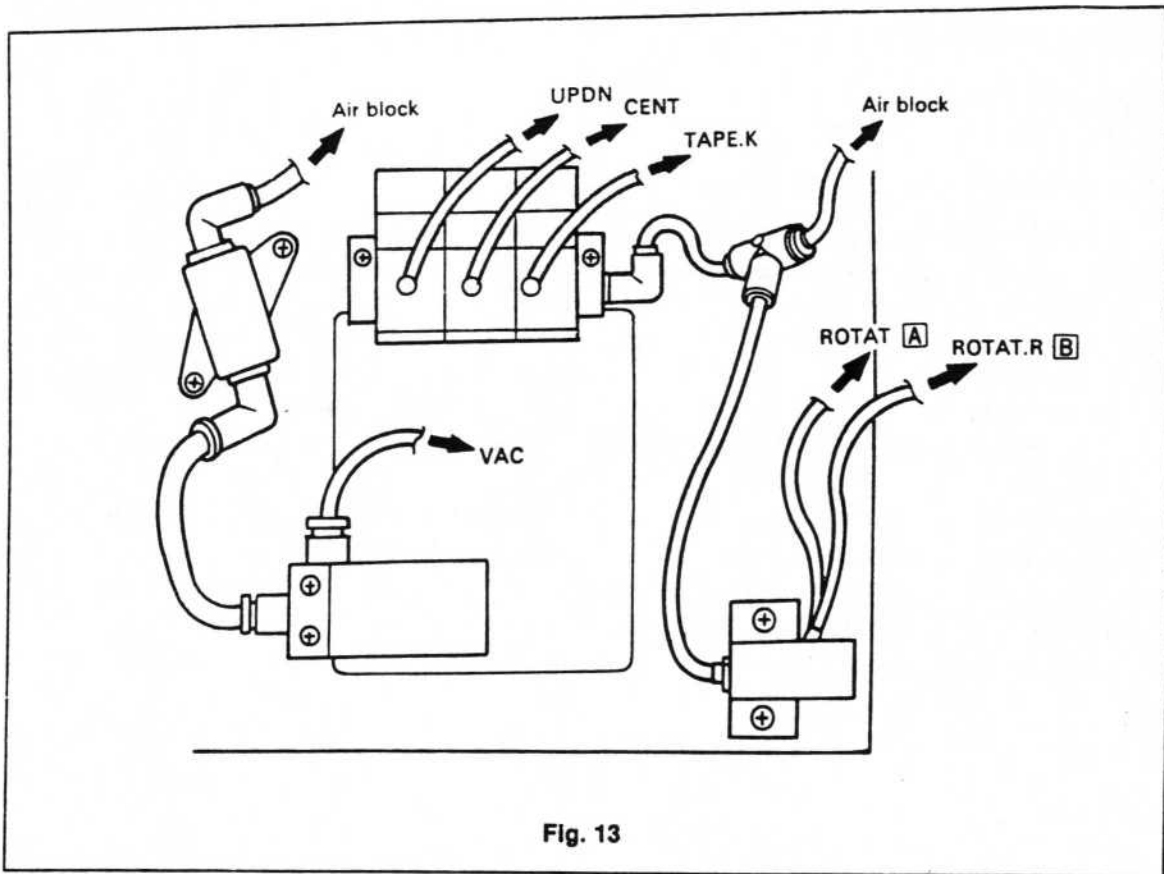

Fig. 13
3. Take the tubes out of the tube port, and remove the bonds of the electromagnetic valve, air ports, pressure sensor, etc. (See Figure 13).
5. Connect the tubes as shown in Figure 13.